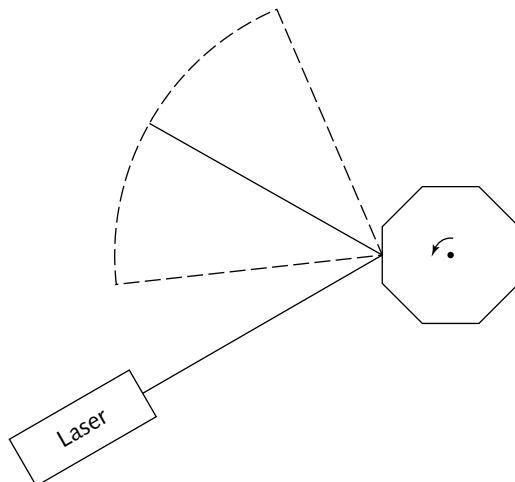

FIGURE 11-2: Raster scan X (horizontal) mirror
- **Raster scan** — You're likely to find parts you can use for this approach in an old laser printer. The horizontal deflection mirror can be multiple facets on a rotating cylinder, as in Figure 11-2. The angle of the mirror relative to the laser beam changes as each facet rotates past the beam, sweeping out the arc shown in the figure. The process repeats for each facet (eight in the figure); turning off the beam in time for the facet corners ensures that the beam remains confined to the intended width. The critical design characteristics for this mirror are that it spins at a known, constant speed, and that the processor knows precisely the timing for each facet versus the laser beam position. The processor controls the beam timing to create dot positions along the line, and chooses whether a dot is on or not based on the font and what's being displayed.